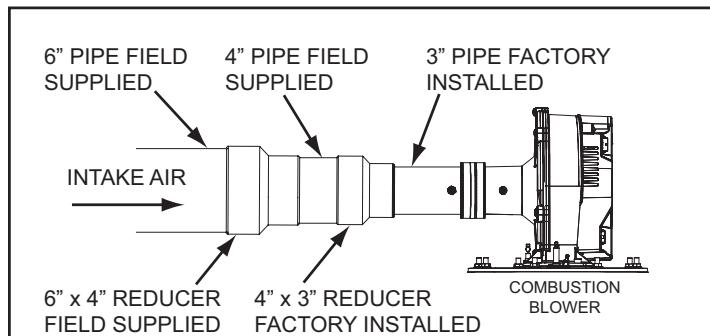

Figure 18. Intake Air Connection
14. If installing 6" intake air pipe transition to 4" pipe at the intake air connection on the water heater as shown in *Figure 18*. The field-installed 4" pipe between the intake air connection and the 6" x 4" reducer coupling should be 18 inches (45 cm) or less in length.